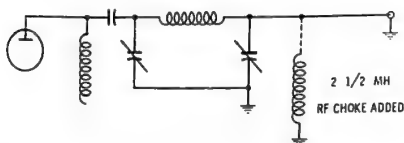

Fig. 2-25. RF choke across the output.
- Important:* the tuning procedure will be speeded up a great deal if you work with the circuit live and quickly run the clip up and down the coil to achieve the desired maximum indication on the bulb. However, there is a certain inherent risk, since, if the blocking capacitor in the transmitter breaks down, it could place plate voltage on the output. One way to eliminate this problem is to clip an RF choke across the cable. In case of a breakdown, the RF choke will provide a path to ground, as shown in Fig. 2-25.